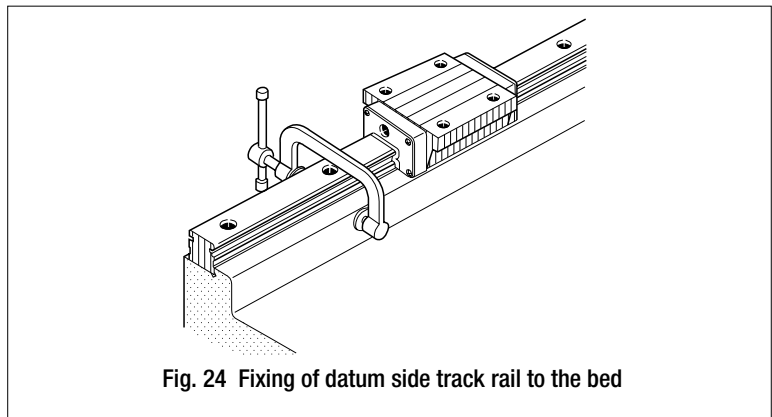

Fig. 24 Fixing of datum side track rail to the bed
③ Final fixing of Linear Way I track rail
- Firmly push the reference mounting surface of Linear Way I track rail to the mating reference mounting surface of the bed using a small vise or clamp. Tighten the track rail mounting bolt at the position where the vise or clamp is applied. Fix the track rail by progressively moving the position of the vise or clamp from one rail end to the other. (See Fig. 24.)